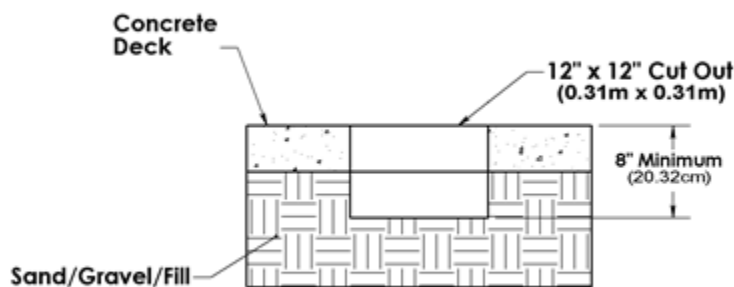

Figure 2
- Use a concrete cutting saw; cut the 12" x 12" square out of the existing concrete deck. Using a heavy/sledgehammer to break the cut section of concrete and remove from the deck. See Figure 2.